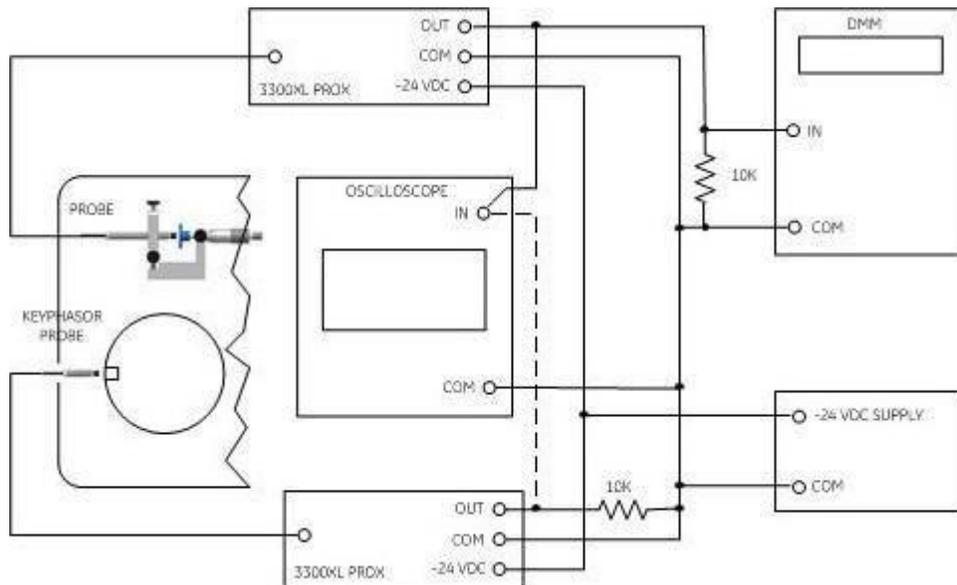

Figure 3-1: Equipment Set-up
The Proximitor unit must be connected to the probe and its associated extension cable. The procedure must use a target with the same or of similar electrical properties as the observed material in the monitored machinery. The recommended maintenance equipment for performing the procedures in this section is given in Table 3-1. The test equipment setup is shown in Figure 3-1.
1. Connect the test equipment as shown in Figure 3-1. However, connect the Keyphasor Proximitor OUT signal, rather than the Proximitor OUT signal, to the oscilloscope IN.